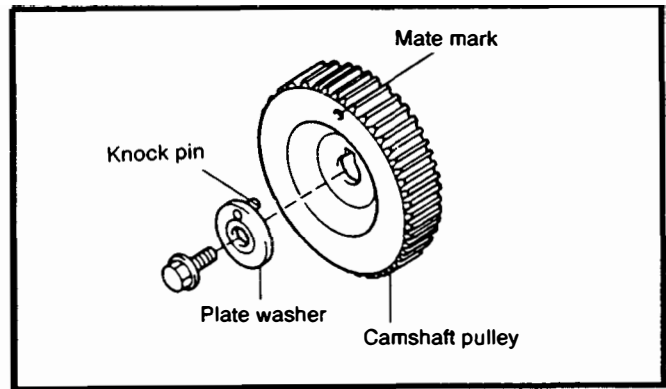

Figure 51.
2. Install the camshaft pulley. Align the knock pin in the plate washer with the hole in the camshaft pulley. See Figure 51.